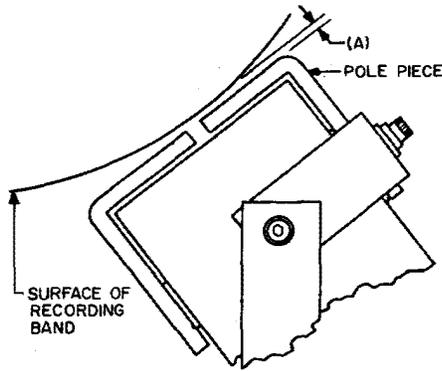

Fig. 8—Erase Coil Clearance
- (b) There shall be a clearance between the recording band [Fig. 8, (A)] and the surface of the erase-coil pole pieces throughout one complete revolution of the drum of